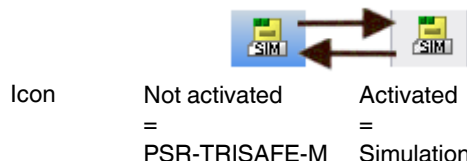

Figure 6-19 “Simulate Safety Controller” icon
- Execute the same steps in the SAFECONF configuration software as you would if you were working with the real safety module, but ensure that the “Simulate Safety Controller” icon in the toolbar is activated (see Figure 6-19 on page 92). This means that you can force signals or display online values in the connection editor as usual. The simulation continues to run in the background, with the icon visible in the taskbar notification field (system tray, known as systray for short).